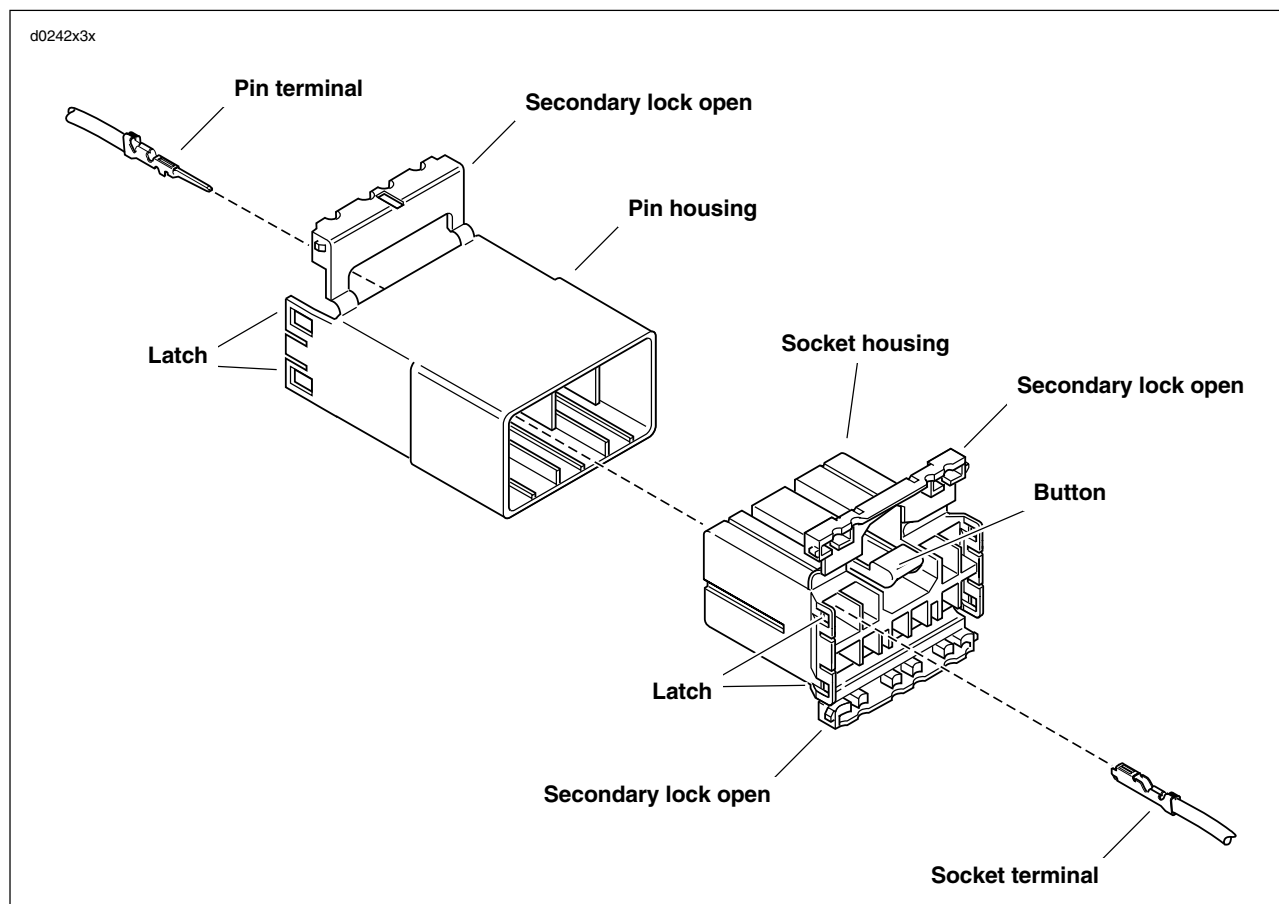

Figure B-1. 10-Place Amp Multilock Connector
5. See Figure B-1. With the flat edge against the terminal, insert the pick tool (Snap-On TT600-3) into the cavity until it stops. Pivot the end of the pick away from the terminal (locktab is inside housing) and gently tug on wire to pull terminal from chamber. Do not tug on the wire until the tang is released or the terminal will be difficult to remove. A “click” is heard if the tang is engaged but then